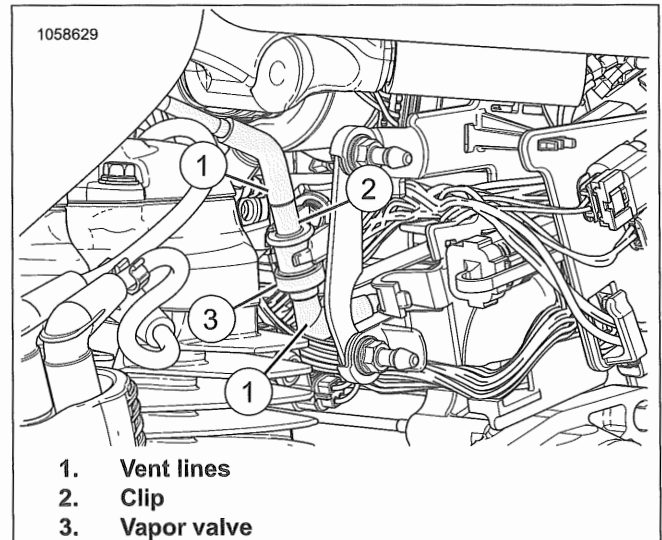

Figure 6-27. Vapor Valve
1. See Figure 6-27. Remove vapor valve.
- a. Remove vent lines (1) from vapor valve (3).
- b. Pull vapor valve from clip (2).
1. See Figure 6-27. Install vapor valve.
- a. Press vapor valve (3) into clip (2).
- b. Install vent lines (1).